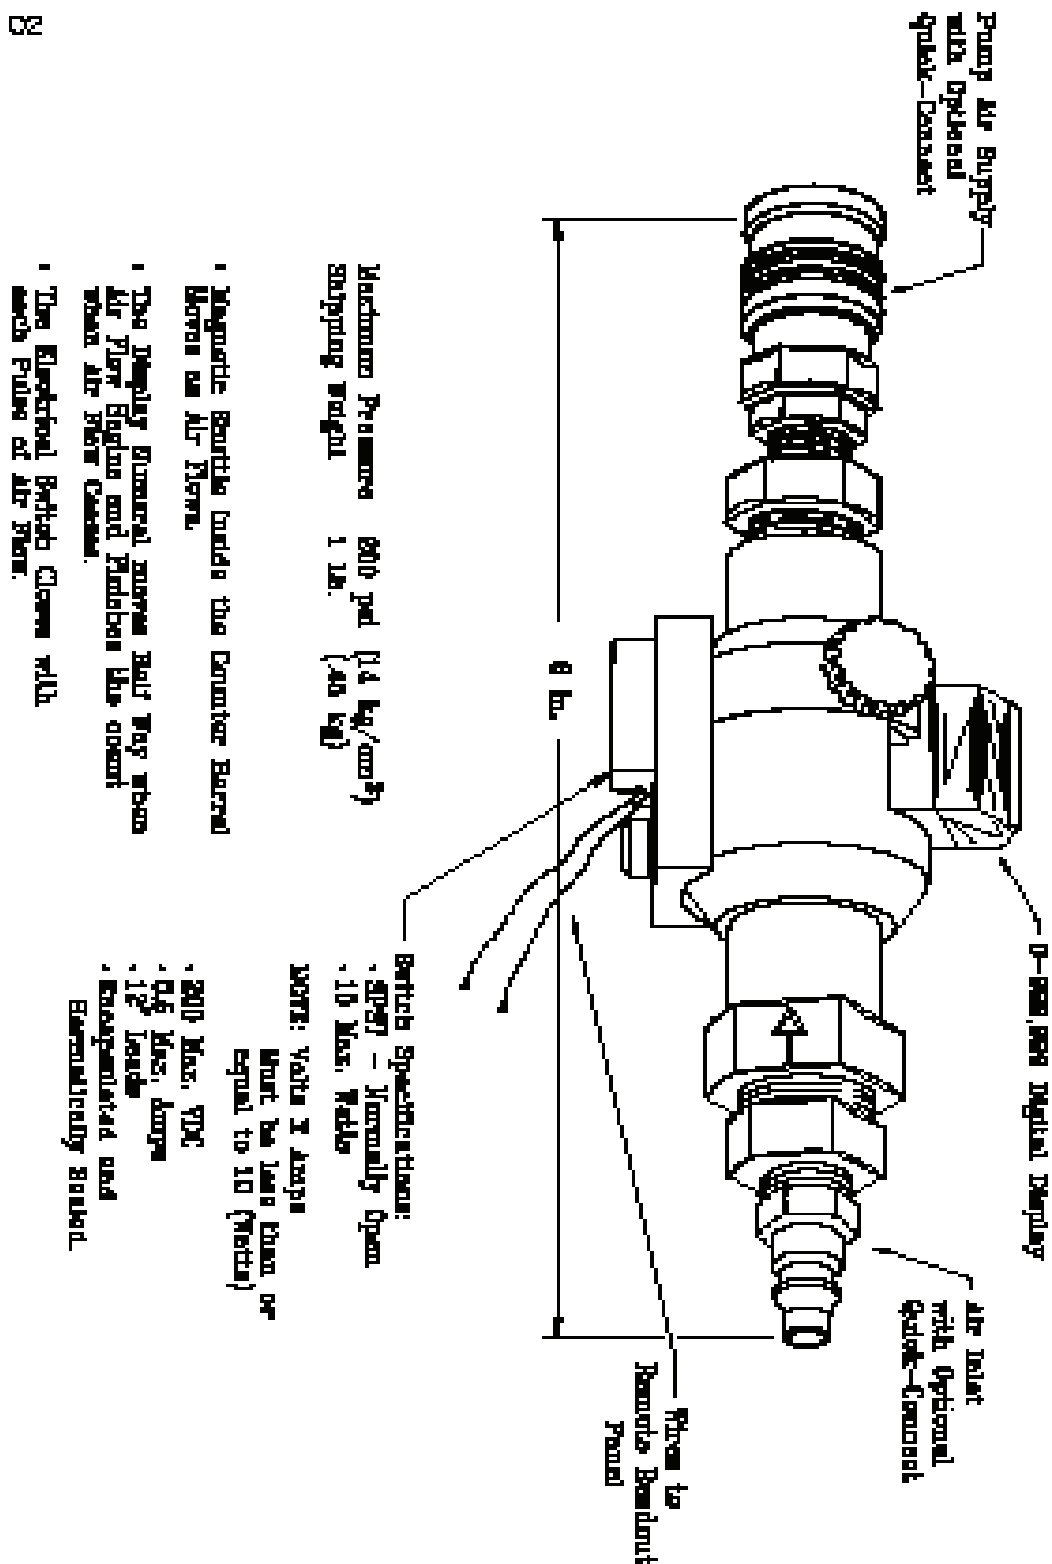

Figure 39 - Pump Cycle Counter with Magnetic Reed Switch
- **Optional:** Switch for remote electronic readout available upon request. (See Figure 39)